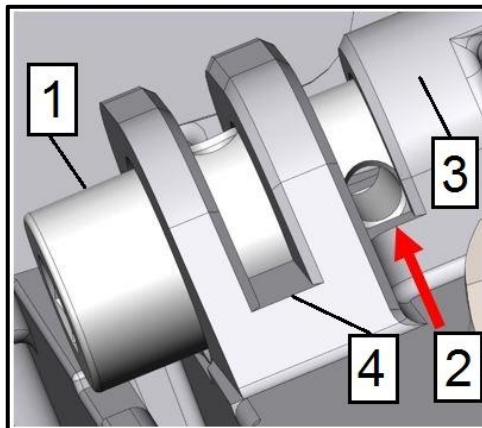

Fig. 31
4. **Turn the adjusting screw (Pose 1, Figure 31) 90 degrees counterclockwise. Check that the adjacent holes in the adjusting screws (relative to the holes in paragraph 3) match the adjacent holes in the housing (relative to the holes in paragraph 3) (pos.3, Figure 31). This will reduce the tension of the chain enough to prevent premature stretching. According to paragraph 3, the first hole in motion and the first groove in motion.**